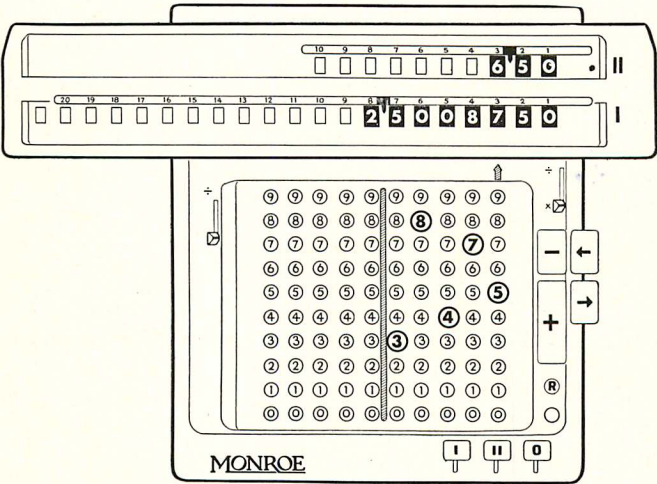

Figure 18
*Step 2*—Starting with the carriage in the “2” position, the equivalent is multiplied by 6.50. The result in the lower dials is 2.5008750, or 2.50, the net price. (Figure 18.)